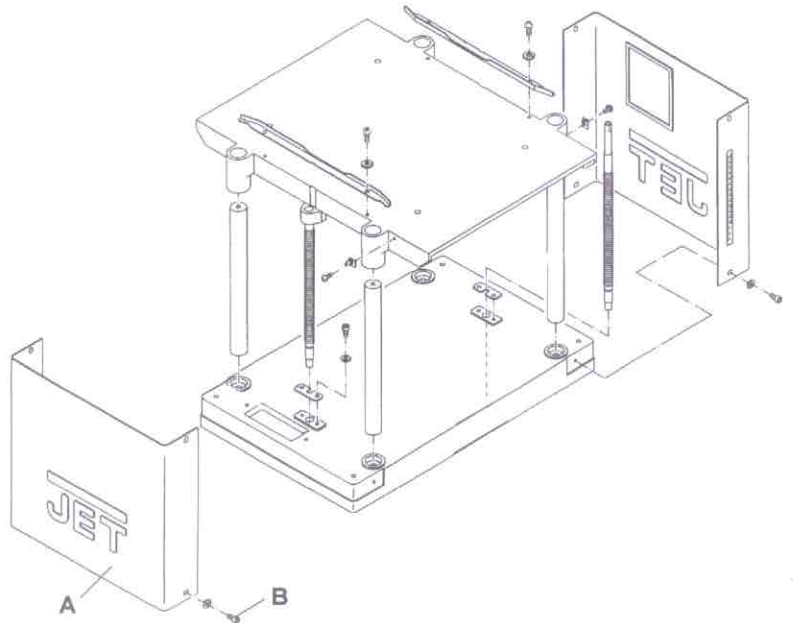

Fig. 6
21. Remove left panel (A, Fig. 6) by removing four hex socket cap screws (B, Fig. 6).